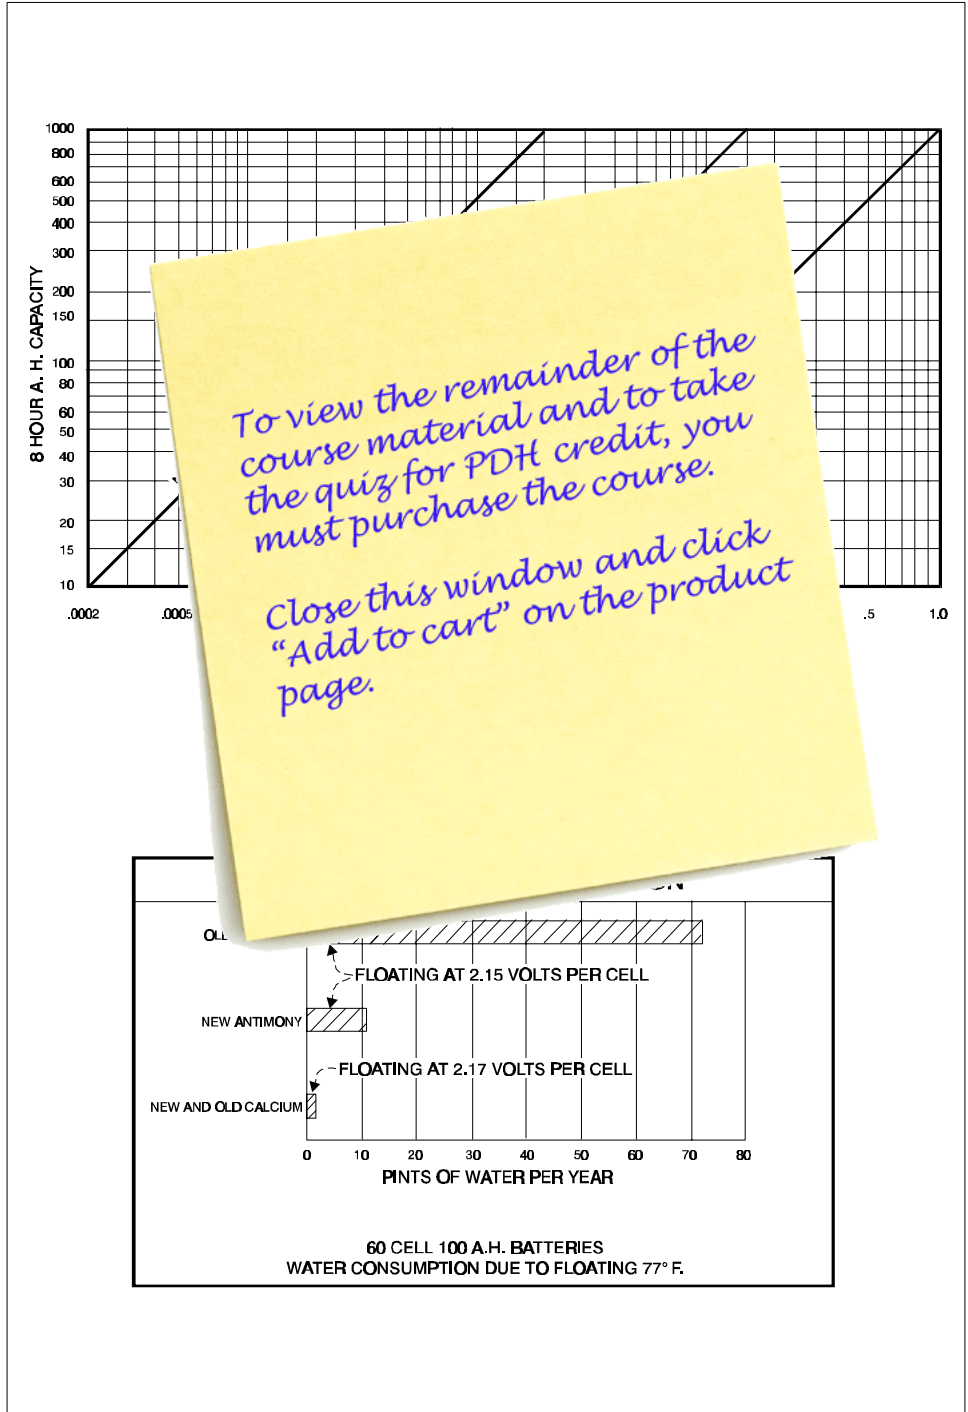

Figure 1. - Water consumption for lead-acid battery sizes and types.
5. If too little replacement water is being added, typically indicating undercharging (see fig. 1 for typical water consumption).